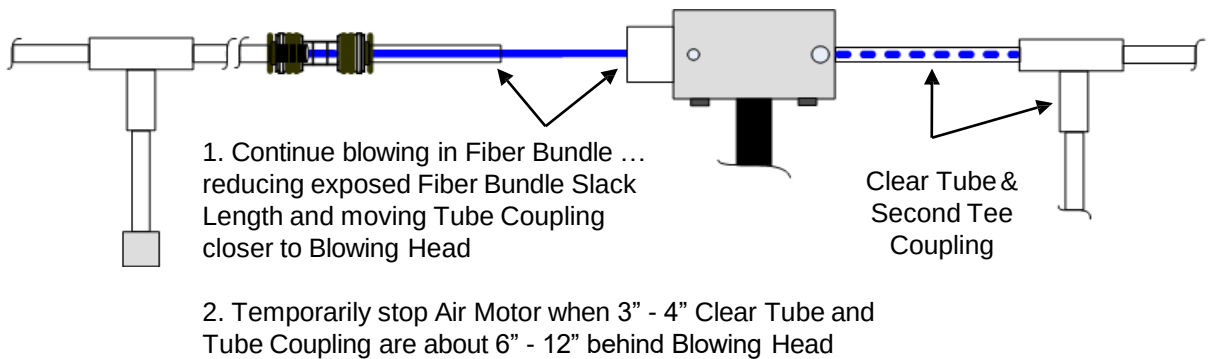

Figure 9A
11.5 **Key Step.** Blowing Head Operator closes Motor Rate Control Valve and stops fiber bundle movement when 3" Clear Tube and Additional Tube Coupling are about 1 foot behind back of Blowing Head. **See Fig. 9A.**